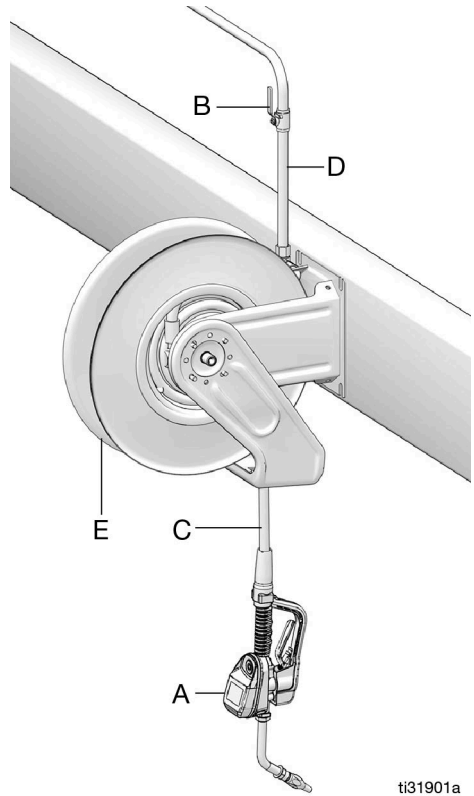

FIG. 6
The typical installation shown in FIG. 6 is only a guide. It is not a complete system design. Contact your Graco distributor for assistance in designing a system.
2. Close the shut-off valve (B, FIG. 6, page 8).
1. Close the fluid shut-off valve (B, FIG. 6, page 8) at each dispense position.
4. Slowly open the shut-off valve (B) at the dispense position. Flush out a sufficient amount of oil to ensure that the entire system is clean; then close the valve.